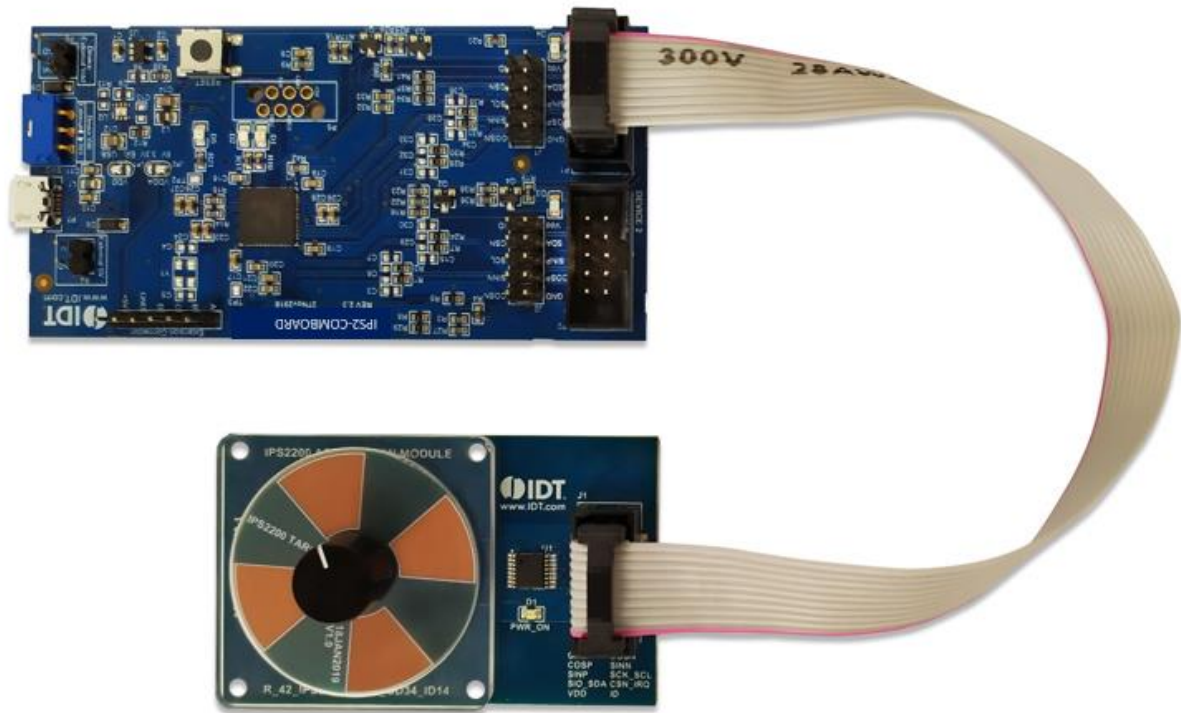

Figure 2. IPS2200 Inductive Position Sensing Starter Kit Connections – IPS2200MROT4x90001 Application Module Example
Figure 2 shows the board connections for the IPS2200 Evaluation Kit using the IPS2200MROT4x90001 Application Module as an example.
3. Connect the IPS2200 Application Module via the flat cable to the IPS2-COMBOARD as shown in Figure 2.